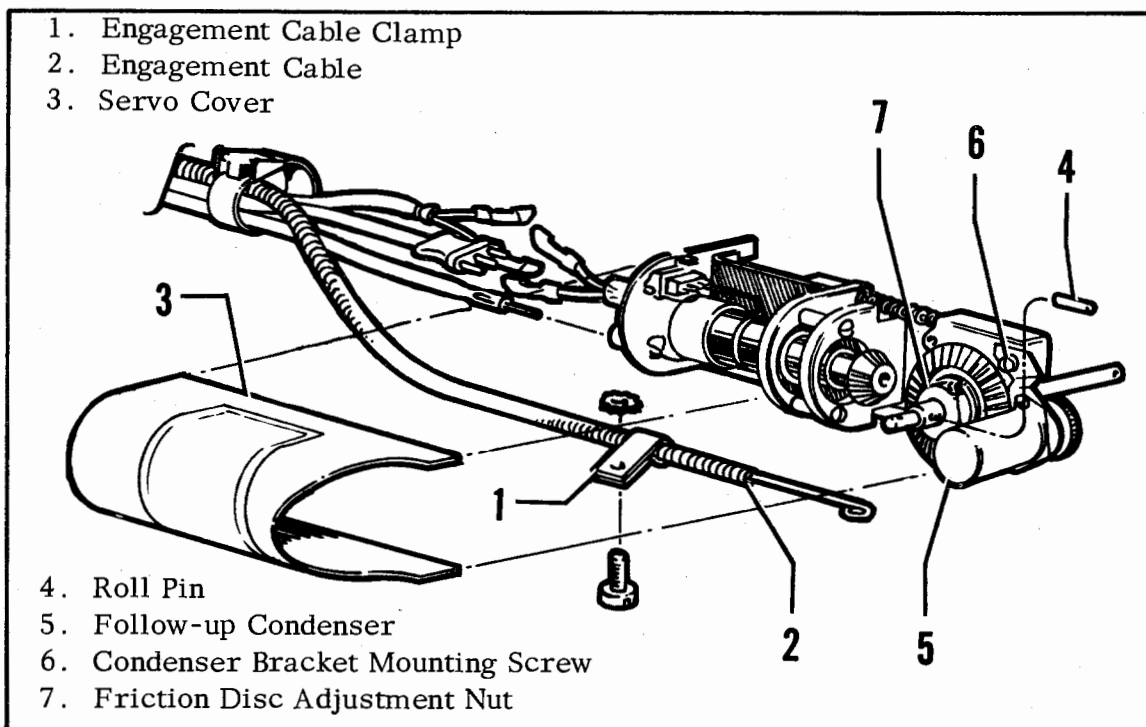

Figure 2-6. Roll Servo
1. Disconnect engage-disengage control clamp (See 1, figure 2-6) and cable (2) from the Roll Servo unit.
3. Remove Roll Servo cover (3) by removing attaching screws.
4. Remove roll pin (4) from the end of the shaft by pressing it out. Do not hammer. (Refer to Service Aid TP-1006)
1. Disconnect engage-disengage control clamp (See 1, figure 2-6) and cable (2) from Roll Servo unit.
- b. Locate the gear which operates the follow-up condenser (See 5, figure 2-6) at the extreme right side of the Roll Servo unit
- c. To time the Roll Servo unit loosen the upper screw (6) holding the follow-up bracket and move the bracket outward until the follow-up gear can be rotated to line-up timing hole in gear and bracket.
- a. Loosen the Allen cap screw locking the 15/16 split nut (See 7, figure 2-6) of the gear assembly.